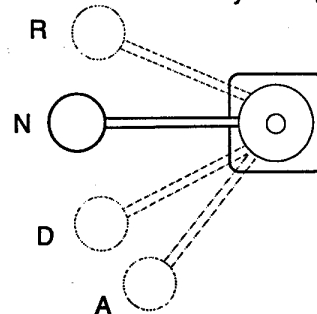

Figure 3. Operating the Control Valve
2. Move the control valve to the rapid advance position "A" to bring the drill bit into contact with the rail (figure 3).
3. Begin drilling by moving the control valve into the drill "D" position (figure 3).
1. To stop drilling, move the control valve to the neutral "N" position (figure 3).
2. Retract the drill by moving the control valve to the retract "R" position (figure 3) and then move it back to the "N" position.